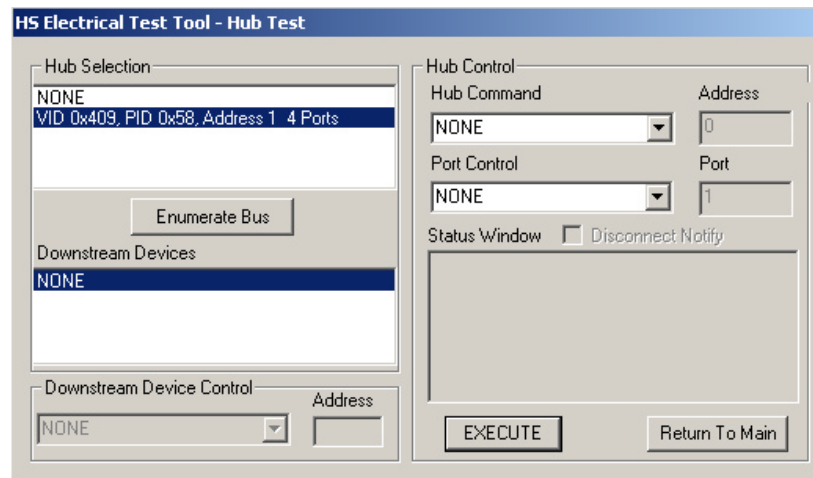

Figure 4. High-speed Electrical Test Tool – Hub Test Menu
- a. The hub under test should be enumerated with the hub's VID shown together with the USB address. (Figure 4)